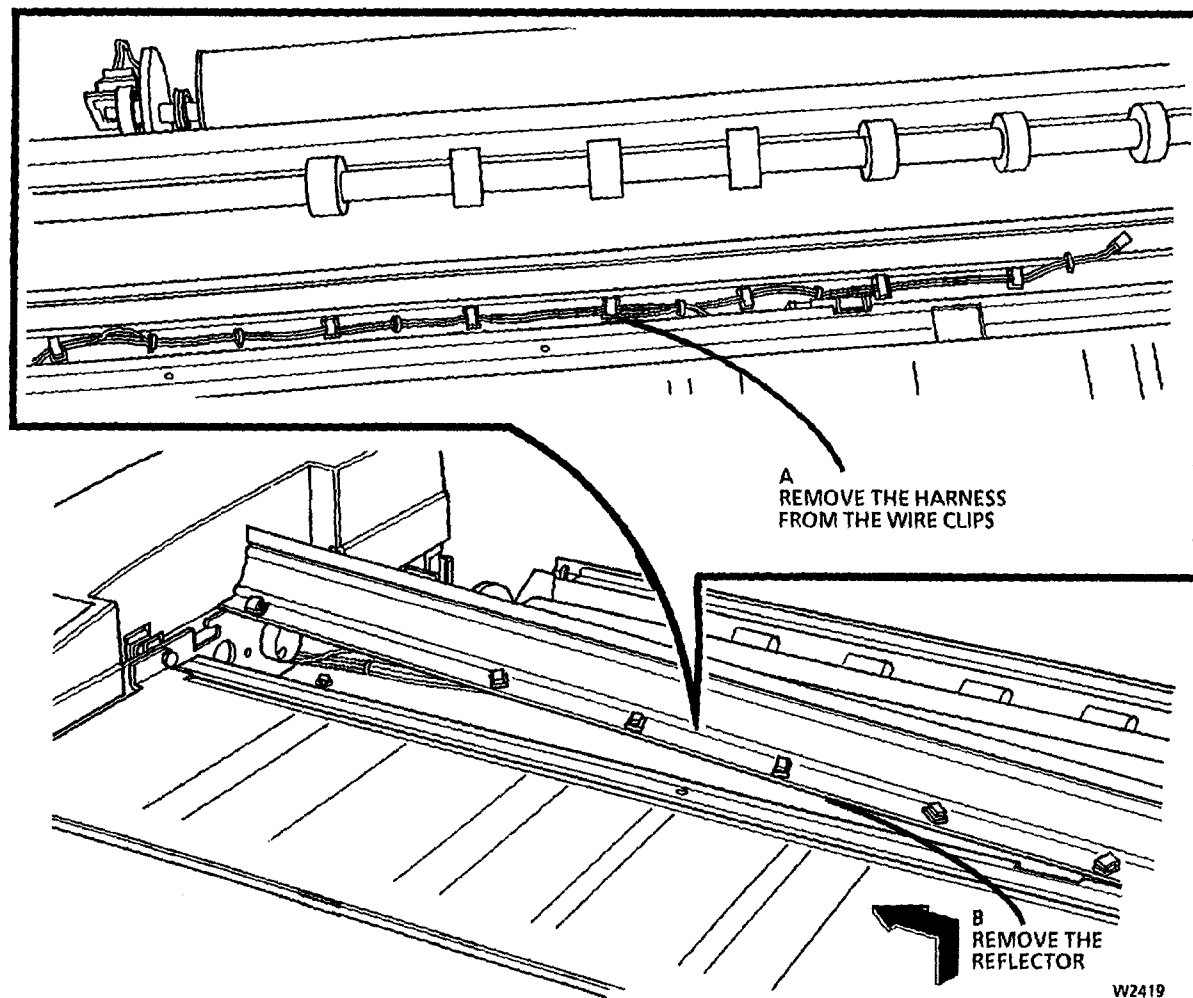

Figure 2. Removing the Reflector
3. (Figure 2): Remove the reflector.